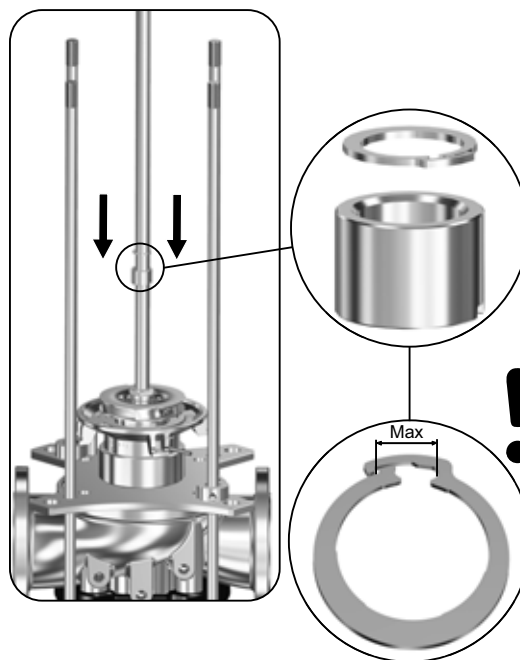

Fig. 28 Maximum permissible opening of lock ring (47g)
5. Fit a split-cone nut (48) to the impeller.
6. Hold the impeller (49 or 49a) with a hook spanner. Tighten the split-cone nut (48) using the service tools C, O and P. See section 7.1 *Torques*.
8. **For pumps with Ø28 or Ø38 pump shaft:** Note that for pumps with Ø28 or Ø38 pump shaft, you must also fit the lock ring (47g). See fig. 28. Make sure that the lock ring (47g) tightens firmly around the pump shaft and holds the bearing (47a) fixed on the pump shaft.
Do not open the lock ring (47g) further than the restriction of the integrated locking mechanism. See fig. 28.